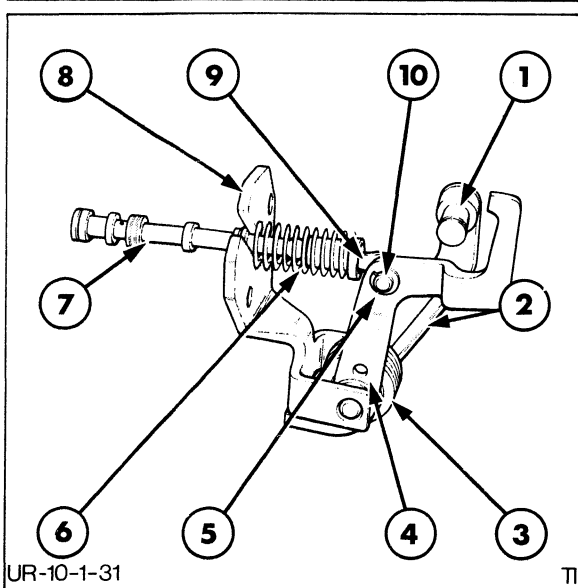

FIGURE 8-31
7. Remove the three bolts securing the bracket to the rear of the lift cylinder. Carefully remove the bracket together with the control valve, control valve spring, control valve lever, torsion spring and actuating lever, Figure 8-31.